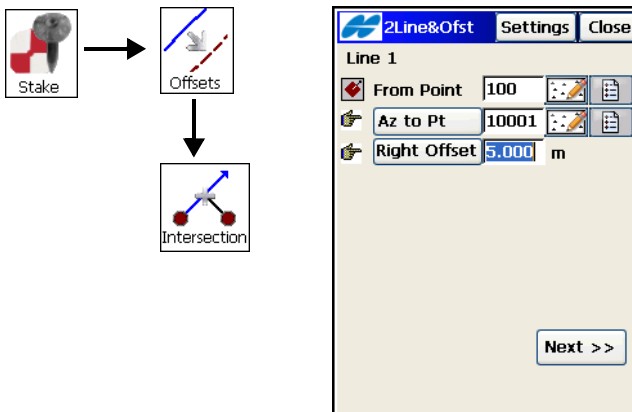

Figure 9-29. Intersection & Offsets – Line 1
1. To stake out Intersection & Offsets, tap **Stake ▶ Offsets ▶ Intersection**. The Stakeout *2Line&Ofst* screen displays (Figure 9-29).
2. On the Stakeout *2Line&Ofst* screen, define the starting point and azimuth for the first known point; specify the horizontal offset to the first parallel line. Tap **Next** (Figure 9-29).